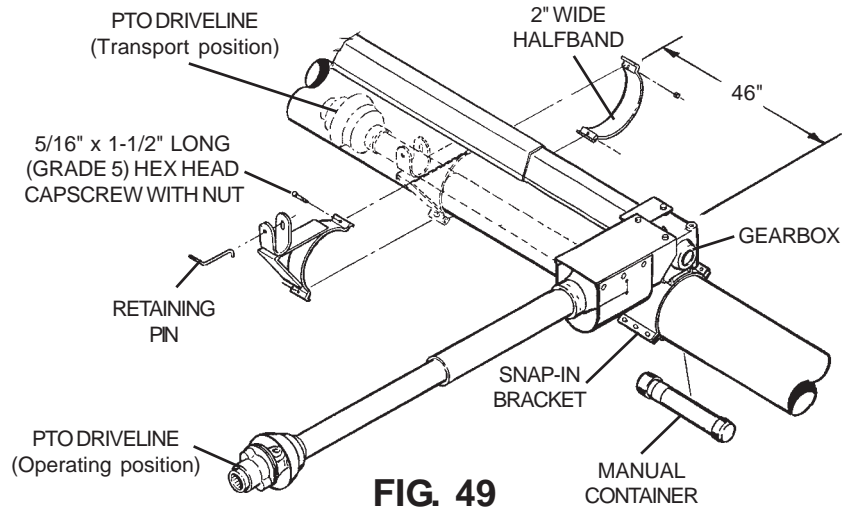

FIG. 49
Step 4. Place the PTO driveline support 46" up the auger housing from center of gearbox and attach to auger using a halfband and two 5/16" x 1-1/2" long (grade 5) hex head capscrews and nuts. Be sure support is not installed where it is covering a safety sign. Position PTO driveline support to the auger, so that PTO driveline is parallel with the drive shaft cover. See Fig. 49 on page 39.
Step 5. Install retaining pin by slipping the short bent end of pin through hole in PTO driveline support and through slot of other side. Allow long end of pin to rotate down. This will secure pin in place. Set PTO driveline into the support to be sure support is installed properly. See Fig. 49 on page 39.
Direct PTO Drive - The snap-in bracket is welded to the bottom halfband used to fasten the gearbox mount to the auger housing. See Fig. 49 on page 39.